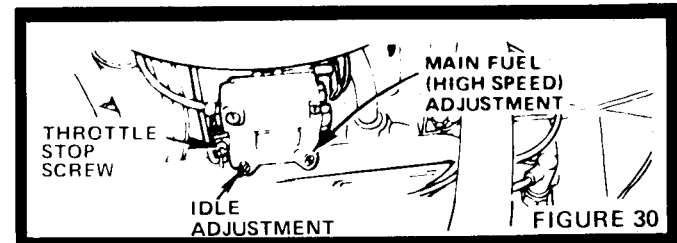

FIGURE 30
- Main Fuel (High Speed) Screw (Fig. 30) should not require adjustment. If resetting is necessary, turn clockwise, closing finger tight ONLY, then turn counterclockwise 1 - 1/2 to 1 - 3/4 turns.
- Turn Idle Adjusting Needle (Fig. 30) clockwise, closing finger tight ONLY, and then turn counterclockwise 1 to 1 - 1/4 turns.
-- Throttle Stop Screw (Fig. 30) should not require adjustment. If resetting is necessary, set to obtain the slowest engine speed that will allow smooth acceleration.